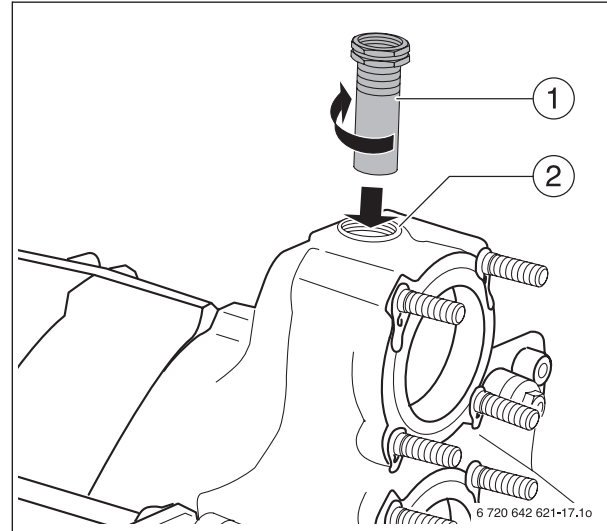

Fig. 22 Fitting the sensor well
- ▶ Seal sensor well R $\frac{3}{4}$ (length: 110 mm) (Fig. 22, [1]) from the top into the R $\frac{3}{4}$ tapped hole in the supply connection (Fig. 22, [2]).